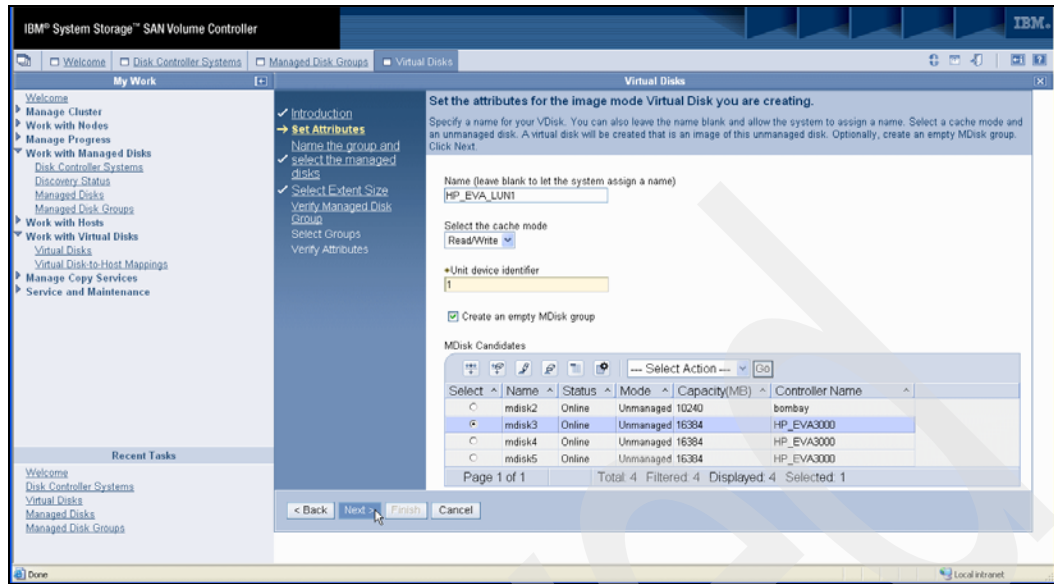

Figure 7-13 Create Image Mode VDisk set attributes
5. Figure 7-13 shows the second panel in this wizard. Specify the attributes for the VDisk you are creating in this panel: